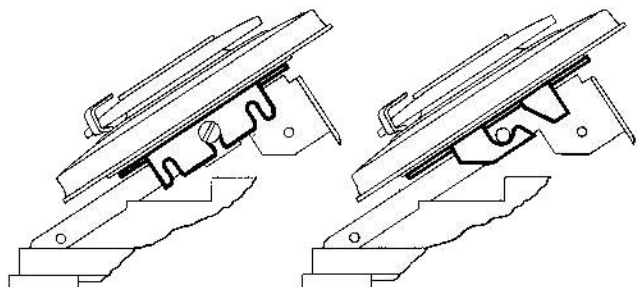

Figure 31A. Dial mountings. Figure 31B.
Two different dial mountings are employed in type 80 telephones. Older dials are mounted with two screws (figure 31A). Newer dials employ a "snap-on" bayonet-lug pin mounting (figure 31B).
19.1 **Removal of screw mounted dial.** Loosen both screws (figure 31A). Lift the dial and mounting plate off the supporting frame. Tip the bottom of the dial up vertically, exposing dial wiring and transparent dust cover over dial springs.